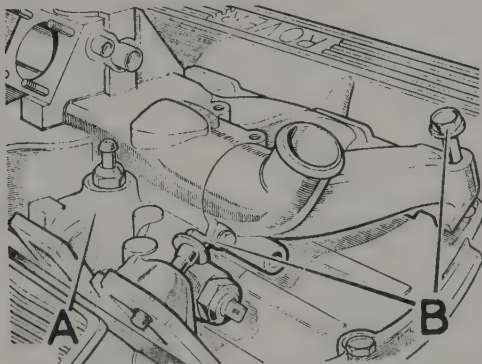

Fig. 1.9. Inlet manifold detail
- 1 There are twelve bolts securing the inlet manifold to the cylinder heads, these should be eased off progressively and then removed. (Fig. 1.9).